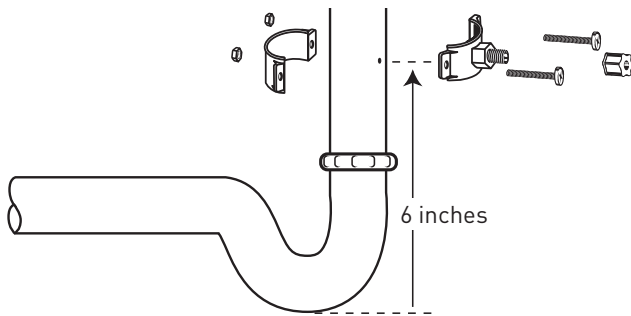

Figure 6
3. Attach the drain clamp to a vertical section of the drain pipe, about 6" (15.2 cm) above the trap. Make sure the opening on the drain clamp is facing towards the drinking water faucet. See Figure 6.